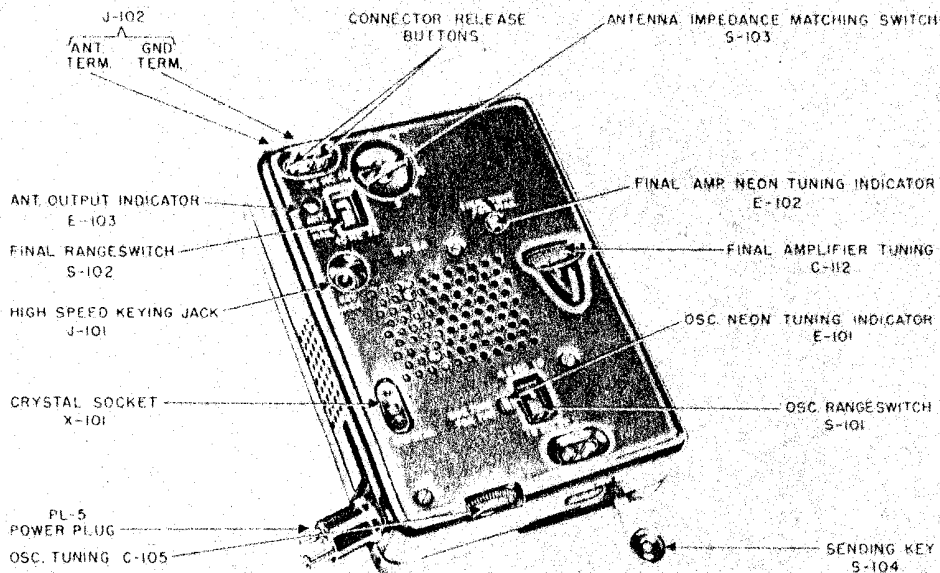

Figure 9. Transmitter RT-6A showing control locations.
### 12. CONTROLS AND FUNCTIONS—(See figure 9)
#### 16. TUNING— (Refer to figure 9)
- (1) by the attached sending key (Figure 9). A keying speed not exceeding 40 wpm (words per minute) may be attained.
- (2) by inserting a semi-automatic (bug) key half-way into the KEY JACK (Figure 9) and leaving the attached sending key out. A keying speed not exceeding 40 wpm may be attained.
- (3) by completely inserting an automatic tape keyer into the KEY JACK (Figure 9) and leaving the attached sending key out. A keying speed not exceeding 60 wpm may be attained.